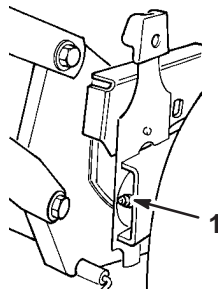

Figure 31
- Wipe the grease fittings on the rear height-of-cut adjusters (Fig. 31) with a clean rag.